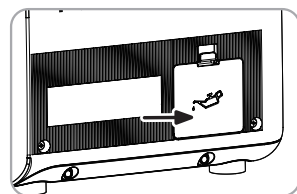

Fig. 6
3. Remove the cover of generator (fig. 6).
8. Close the maintenance cover (fig. 6).